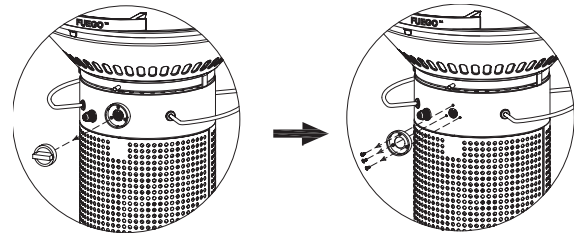

FIG 05.
- F. Remove the control knob, knob bezel and control valve. FIG 05.